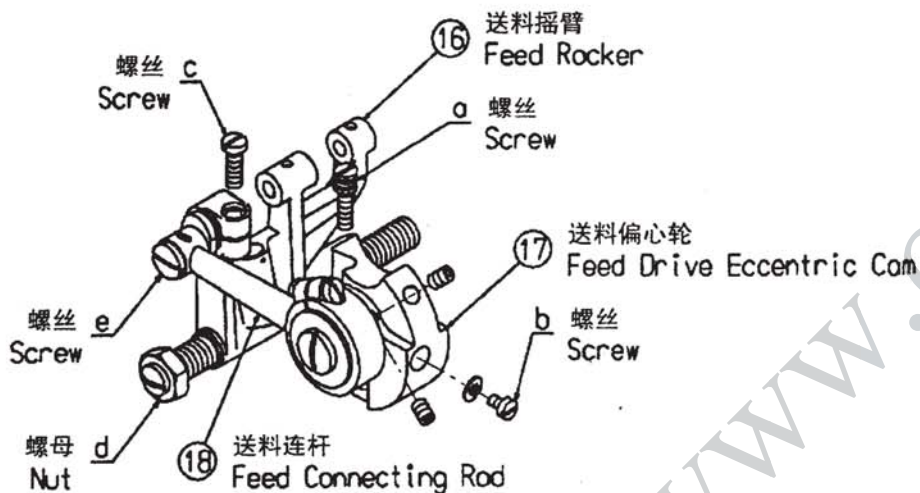

Fig.11
Loosen nut, (d) of Fig.11, of Feed Dog ⑫, and adjust position of Feed Rocker ⑩ so that $A=A'$ is obtained. Tighten nut (d) and confirm that Feed Rocker ⑩ moves smoothly.
Adjust Feed Drive Eccentric Cam ⑰ with its adjust screw, (a) of fig.11, so that feed amount of Feed Dog ⑫ is 10mm. To adjust, loosen screw, (b) of Fig.11, of Feed Drive Eccentric Cam, ⑰ and turn adjust screw (a) counterclockwise to increase feed amount, and clockwise to decrease it.
Loosen screw, (b) of Fig.11 of Feed Drive Eccentric Cam ⑰, and turn adjust screw (a) counterclockwise to enlarge stitch spacing, and clockwise to reduce it. Tighten screw (b) tentatively, and run several pieces of material to test to confirm that you get required stitch spacing. Finally, fasten screw (b) firmly.